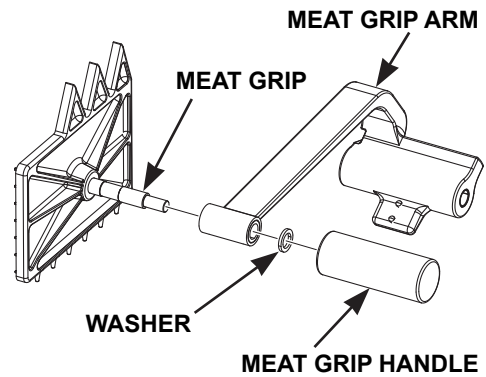

Fig. 9
- Loosen the Meat Grip Handle (Fig. 9) and remove the Handle, Meat Grip Arm, and Washer from the Meat Grip.